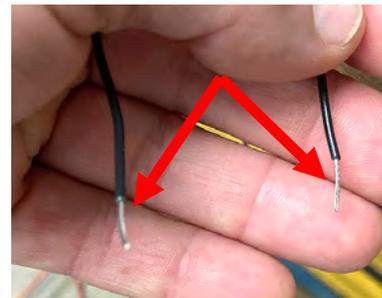

Figure 8
10. Strip both ends of the wire snipped in the previous step about ¼" (see Figure 8).